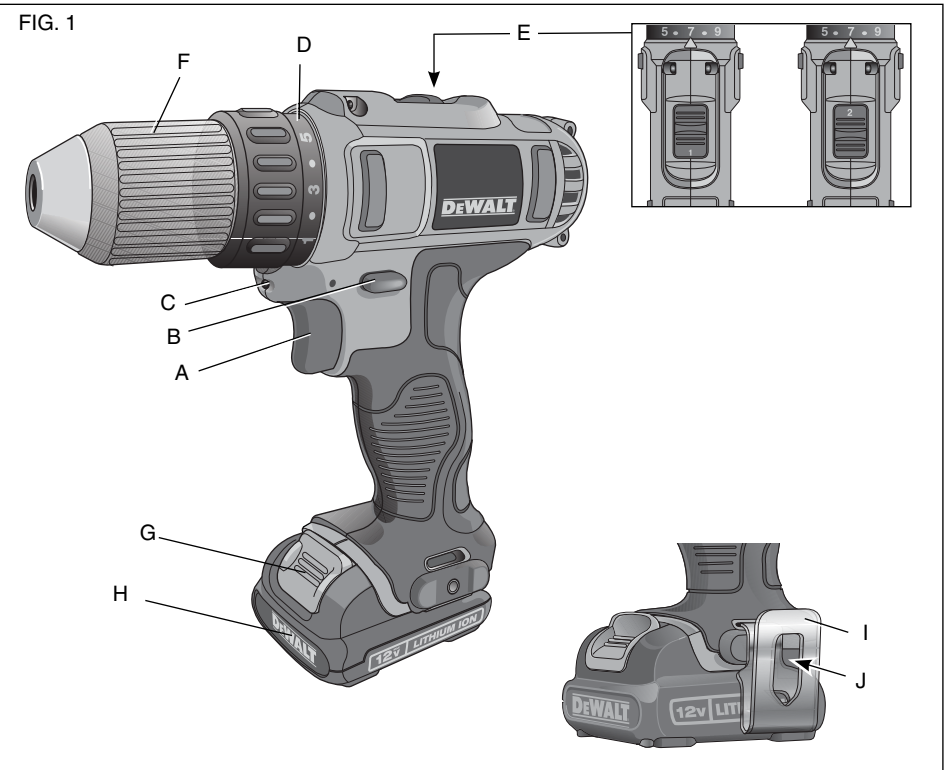

FIG. 2
Charging Procedure (Fig. 2)
- Insert the battery pack (H) into the charger, as shown in Figure 2, making sure the pack is fully seated in charger. The red (charging) light will blink continuously indicating that the charging process has started.